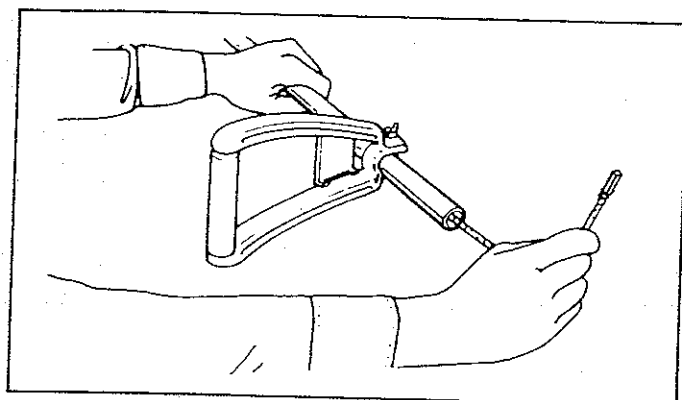

Figure 31
2. Remove the Flexible Drive Shaft from the Drive Shaft Housing as shown in Figure 31.